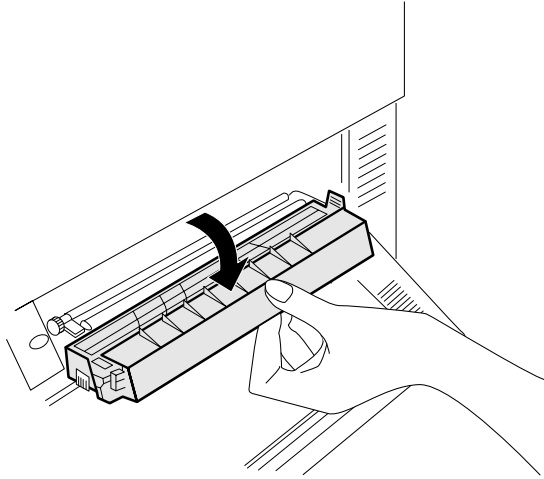

Fig. 9.5 *Open the Transfer Unit*
2. Open the transfer unit by grasping it in the center by the green handle and pulling it toward you and down (fig. 9.5).